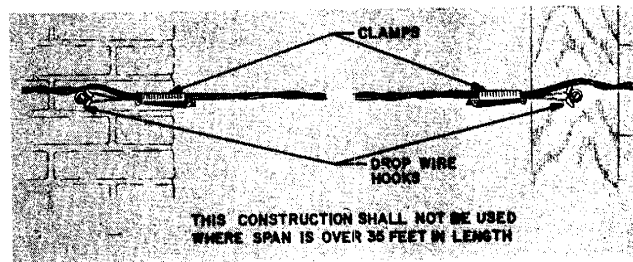

Fig. 12 – Span Less than 35 Feet in Length
9.04 Where only a few bridle wires will be run and the span is 35 feet or less in length, the construction shown in Fig. 12 may be employed.